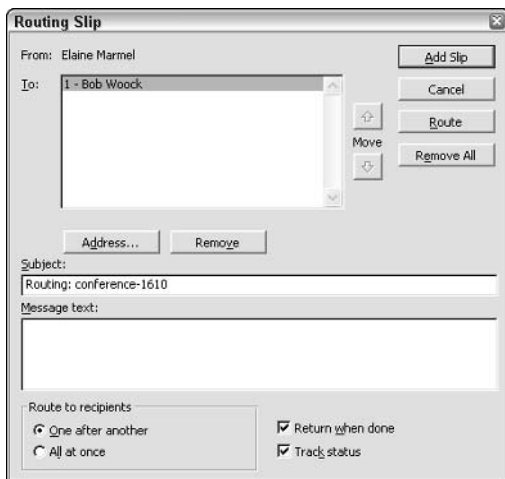

Figure 16-22: The Routing Slip dialog box enables you to track your message as it moves along its route by selecting the Track status check box.
1. Choose File⇨Send To⇨Routing Recipient to open the Routing Slip dialog box, as shown in Figure 16-22.